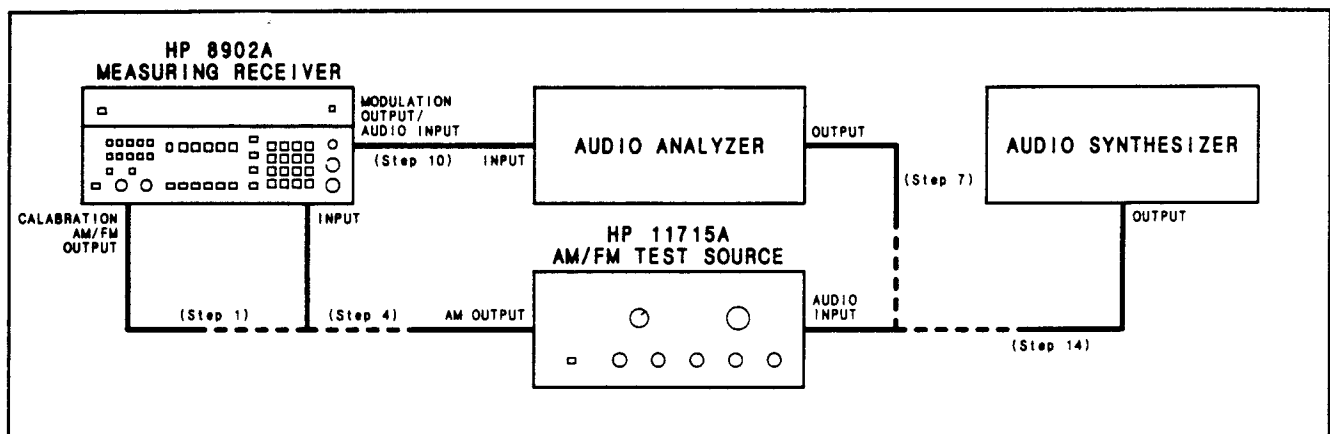

Figure 4-1. AM Performance Test Setup
4. On the AM/FM test source, set the test mode switch to AM. Connect the test source AM output to the Measuring Receiver's INPUT. (See Figure 4-1. Nothing should be connected to the test source's audio input.)
7. Set the audio analyzer's oscillator to 20 kHz. Connect its output to the audio input of the AM/FM test source. (See Figure 4-1.)
10. Connect the audio analyzer's input to the Measuring Receiver's MODULATION OUTPUT/AUDIO INPUT. (See Figure 4-1.) Set the audio analyzer to measure the distortion on the 20 kHz signal at the MODULATION OUTPUT/AUDIO INPUT with 80 kHz of low-pass filtering (on the audio analyzer). The distortion should be 0.3% or less (–50 dB or less).
Set the multifunction synthesizer to 1 kHz at +1 dBm. Connect its output to the audio input of the AM/FM test source. (See Figure 4-1.) Fine adjust the audio synthesizer level for a Measuring Receiver display of 80% AM.